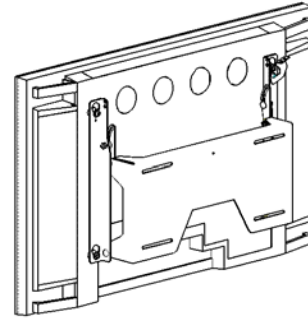

Figure 6
- With the aid of another person, lift the display up to the mount, align the mounting buttons on the display with the teardrop slots in the mount, and set the display into place. Position (raise) the flag to secure the display (See Figure 6)